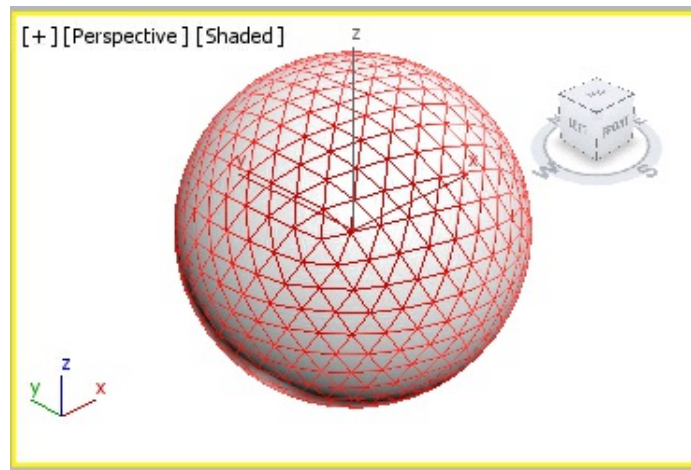

Figure 8-115 *All edges of golf ball selected*
7. Press the CTRL+A keys to select all the edges of *golf ball*, as shown in Figure 8-115.